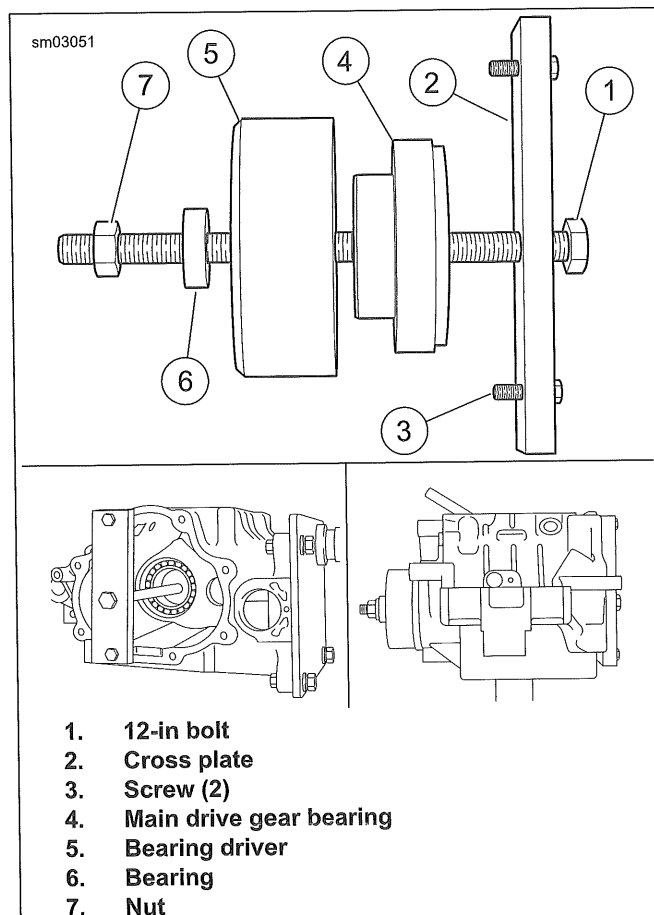

Figure 5-64. Installing Main Drive Gear Bearing (Typical)
1. See Figure 5-64. Install main drive gear bearing using MAIN DRIVE GEAR REMOVER AND INSTALLER SET (PART NUMBER: HD-35316-D).